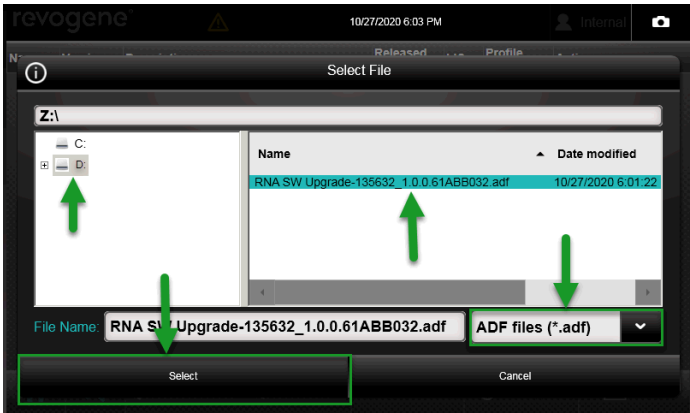

Figure 12: ADF Selection Window
2. A window will appear. Select the USB drive (D:). The default format should be .adf. If not, change the format of the file to .adf (ADF files) and select the ADF file named: **RNA SW Upgrade-135632_1.0.0.61ABB032.adf**. (Figure 12)